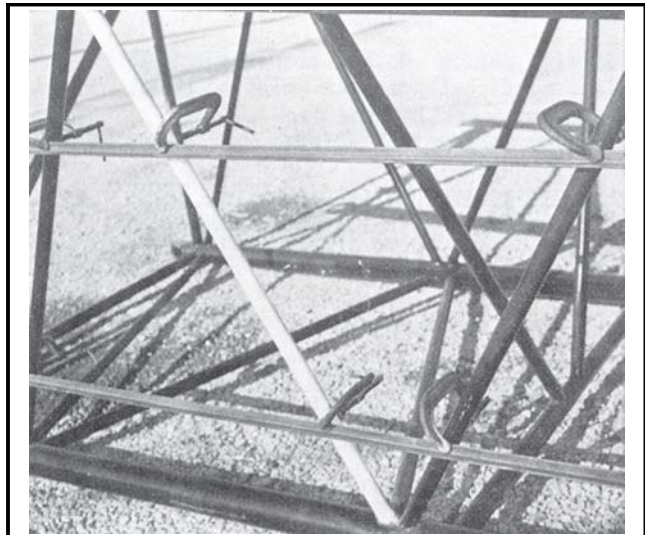

Figure 20
6. Position the replacement tube to be welded into the proper location and clamp into place. See Figure 20. Check to ensure that all grease, oil, and paint are removed from the area to be welded.